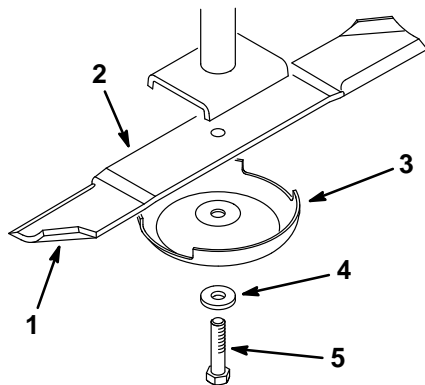
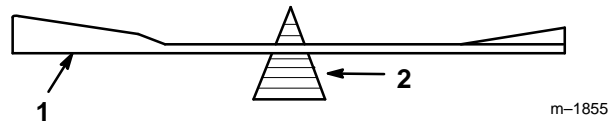

Figure 13
Figure 15
Hold the blade end using a rag or thickly-padded glove. Remove the blade bolt, lock washer, anti-scalp cup and blade from the spindle shaft (Fig. 13).
2. Check the balance of the blade by putting it on a blade balancer (Fig. 15). If the blade stays in a horizontal position, the blade is balanced and can be used. If the blade is not balanced, file some metal off the end of the sail area only (Fig. 13). Repeat this procedure until the blade is balanced.
1. Install the blade onto the spindle shaft (Fig. 13).
2. Install the anti-scalp cup, lock washer and blade bolt (Fig. 13). Torque the blade bolt to 85–110 ft-lb (115–149 N•m).